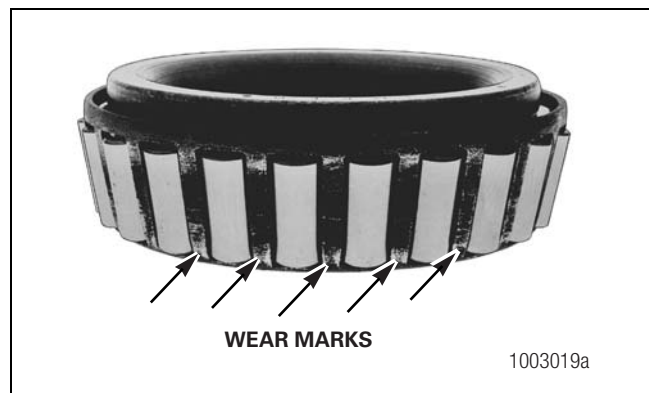

Figure 4.3
- There are bright wear marks on the outer surface of the roller cage. Figure 4.3.